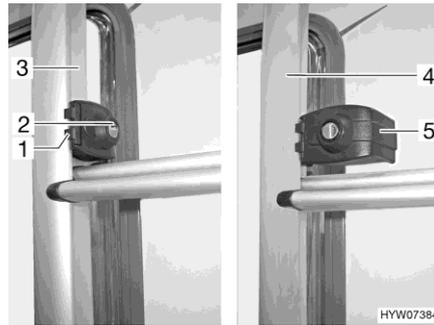

Fig. 2 Lock (rear ladder)
- Insert the key into the locking cylinder (Fig. 2,2) of the rear ladder lock (Fig. 2,1) and turn it a quarter turn until the key is in a vertical position.
- Hold the foldable part of the rear ladder (Fig. 2,4) and swing out the securing bracket (Fig. 2,5).
- Insert the key into the locking cylinder (Fig. 2,2) of the rear ladder lock (Fig. 2,1).
- Swivel the securing bracket (Fig. 2,5) inward around the tube of the fixed part of the rear ladder (Fig. 2,3).